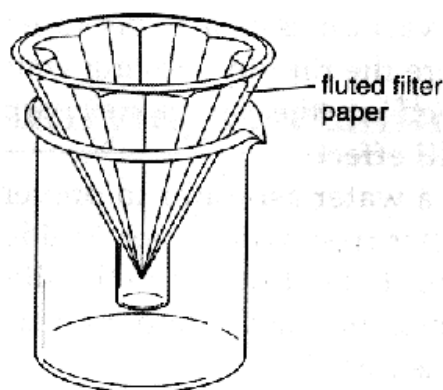

Figure 1: Hot filtration system.
1. Verify that the hot filtration system is set up as shown in Figure 1.